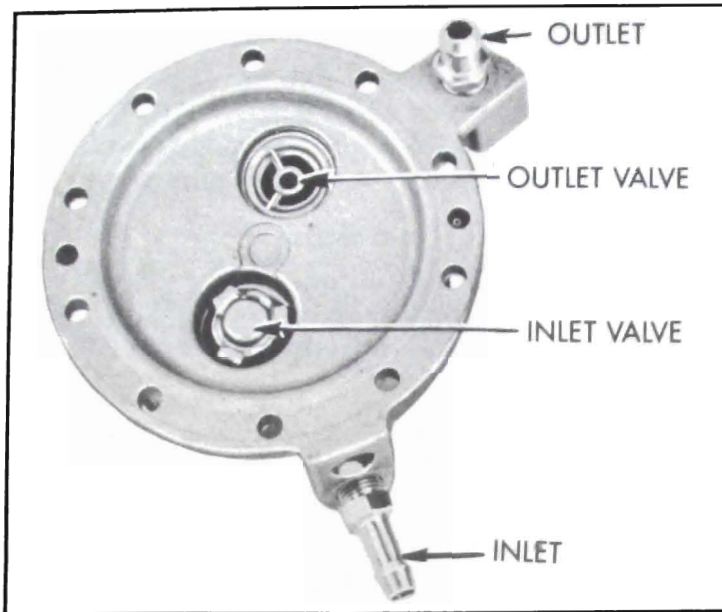

Figure 3-16—Valves in Fuel Cover
4. Place a new gasket in each valve seat in fuel cover. Place valve in seat nearest "IN" connector with spring cage facing up. Place other valve in outlet valve seat with **spring** cage down. See figure 3-16.